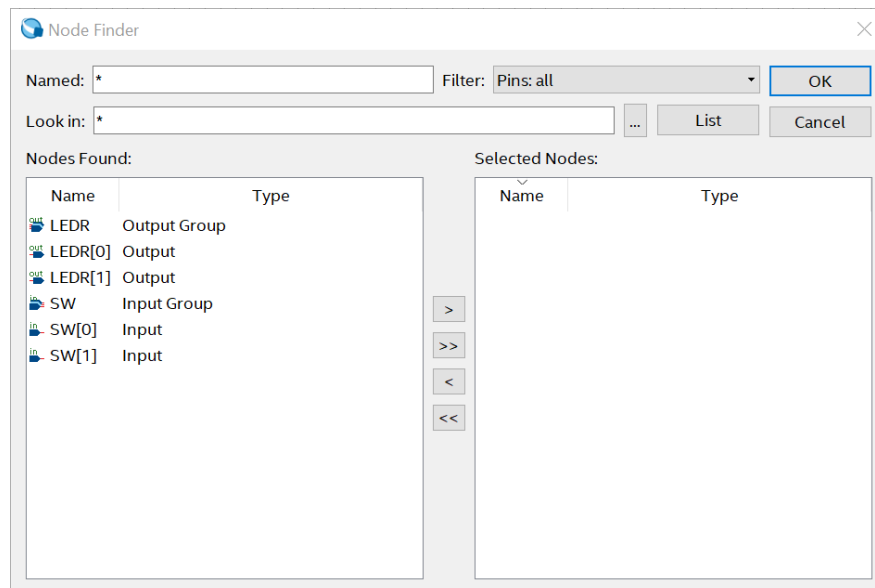

Figure 16 Node Finder dialog
- Design file stays in project directory (Fig.16)